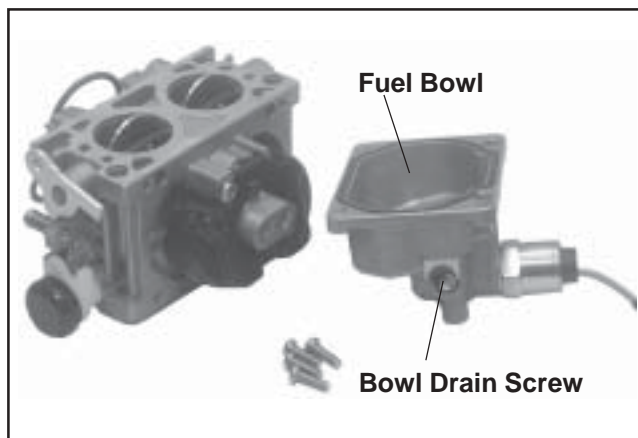

Figure 5-49. Fuel Bowl Removed From Carburetor.
1. Clean the exterior surfaces of dirt or foreign material before disassembling the carburetor. Remove the four mounting screws and separate the fuel bowl from the carburetor. Transfer any remaining fuel into an approved container. Remove and discard the old O-Rings. Fuel can also be drained prior to bowl removal by loosening/removal of the bowl drain screw. See Figure 5-49.